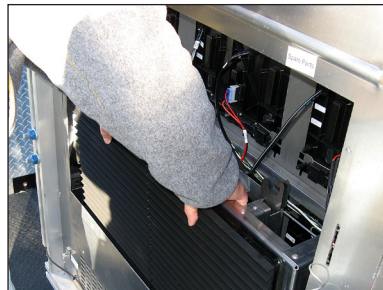

Figure 5: Lift Spare Parts Rack From Cabinet
2. Lift the spare parts rack off of the mounting studs. Refer to **Figure 5**. A second set of mounting studs is located near the bottom of the display.